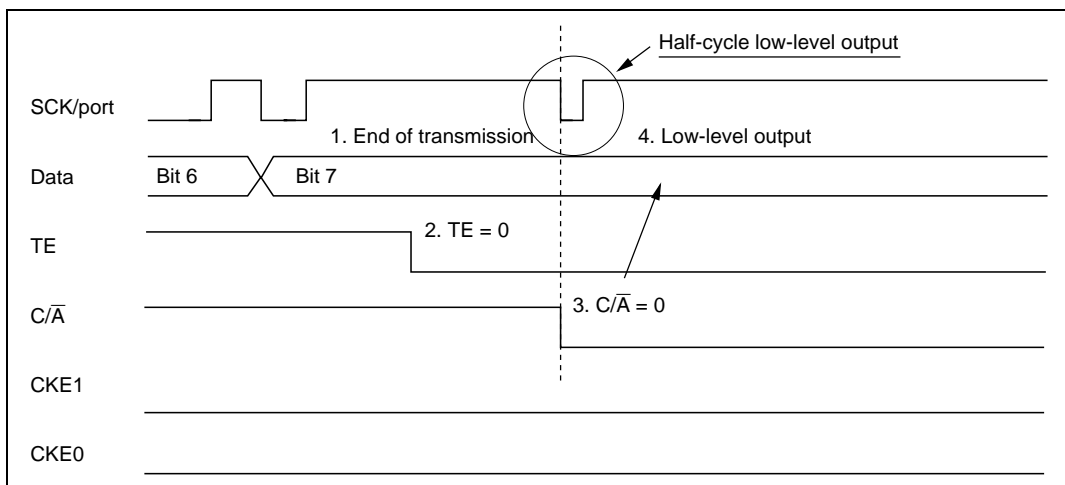

Figure 13.23 Operation when Switching from SCK Pin to Port Pin
4. Occurrence of low-level output (see figure 13.23)